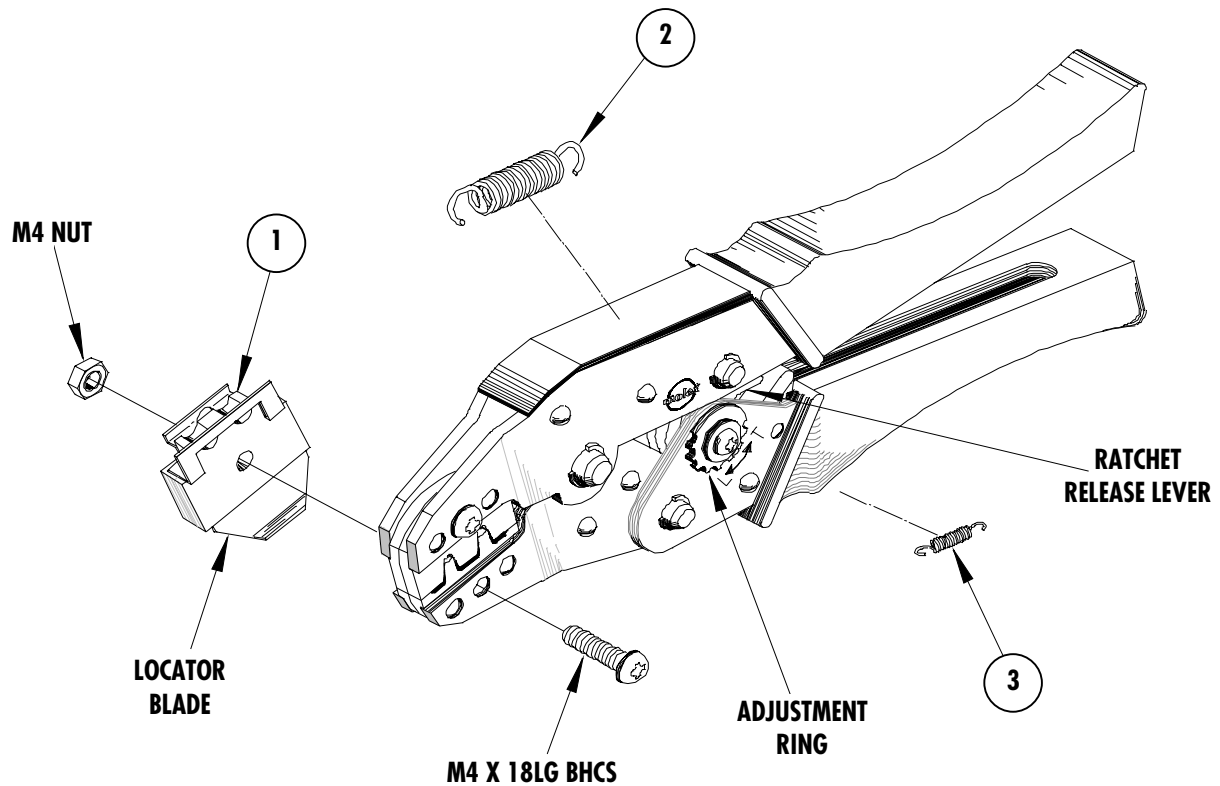

Figure 4
Should this tool ever become stuck or jammed in a partially closed position, **Do Not force the handles open or closed.** The tool will open easily by lifting the ratchet release lever (See Figure 4).
4. Close the tool until the ratchet releases, (See Figure 4).
## How To Adjust Tool Crimp Force (See Figure 4)